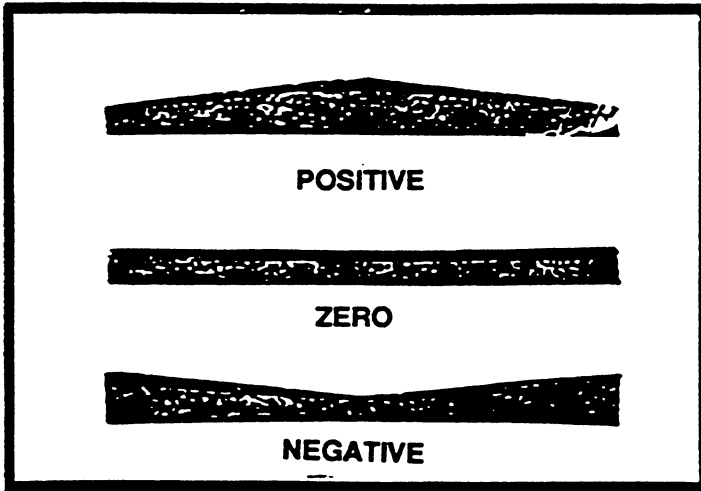

FIGURE 1
The following procedure will assist in getting the screed ready to lay the desired mat whether positive, zero or negative crown. See figure 1.
9. Set crown control. The screed plate is a one-piece unit which is actually bent to provide the required crown setting. See figures 1 and 5.